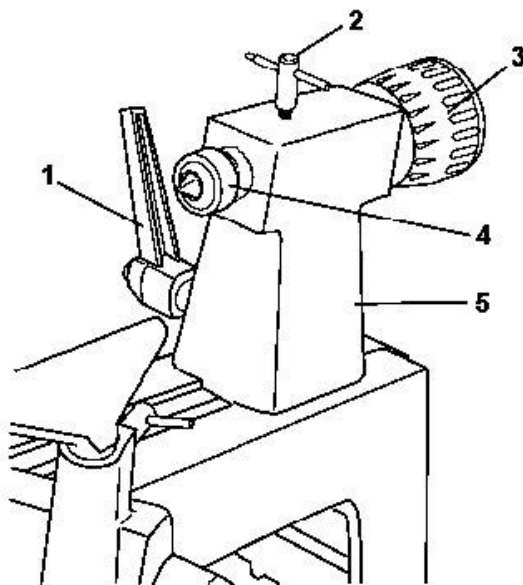

Fig. 11: Tailstock
- Step 1: In order to move the tailstock (item 5, Fig. 11), release the locking lever (item 1, Fig. 11) and slide the tailstock to the required position on the bed.
- Step 2: Tighten the locking lever (item 1, Fig. 11) again.
- Step 3: The tailstock spindle (item 4, Fig. 11) can be moved by releasing the spindle locking lever (item 2, Fig. 11) and then turning the handwheel (item 3, Fig. 11).
Lock the tailstock locking lever (item 1, Fig. 11) and the spindle locking lever (item 2, Fig. 11) before operating the woodturning lathe.